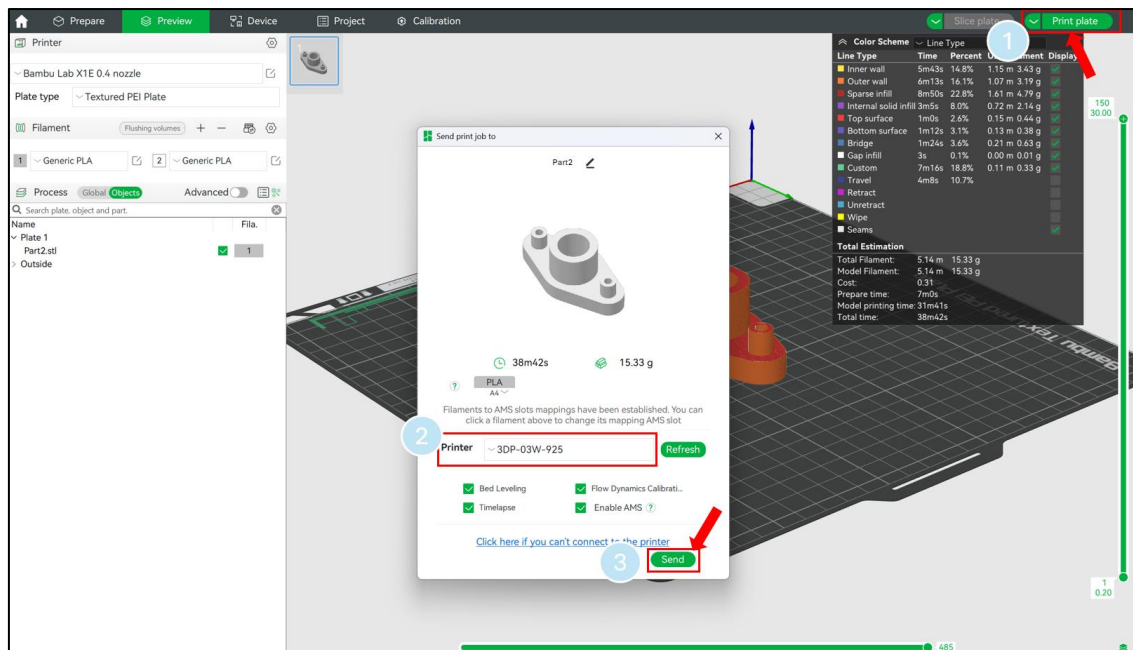

Figure 18: Send part's model to the 3D printer
To send the designed model to the 3D printer after slicing, follow the steps shown in Figure 18. It is important to note that the model must be sliced as described in Section 2 of this document before sending it to the printer.
2. Select the printer model 3DP-03W-925 and leave all options checked by default, as shown in Figure 18.